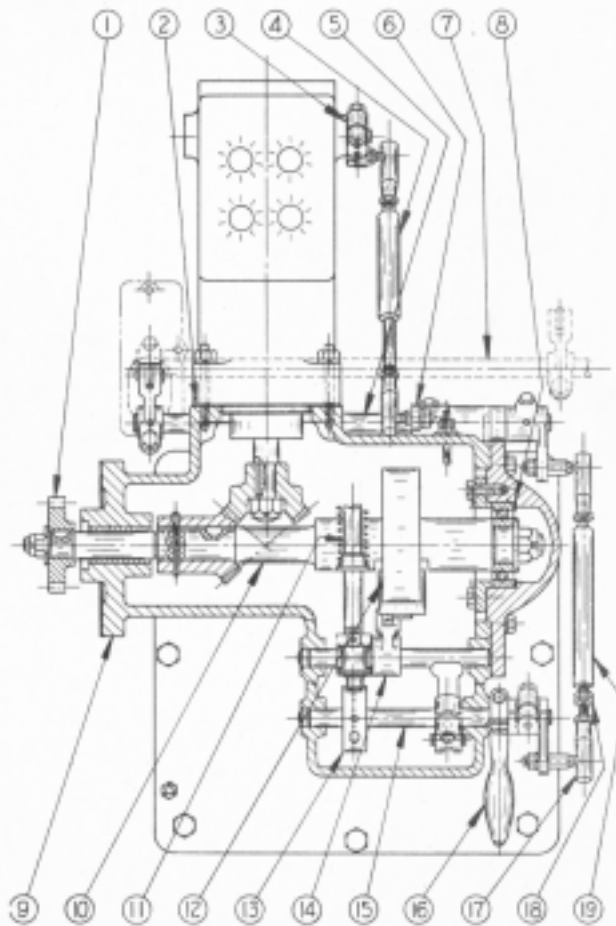

FIG. Q-3
The construction of the Woodward governor drive and overspeed governor is illustrated in Fig. Q-3. The drive is contained in housing (9), which is bolted to the centerframe and gear casing and on which the governor is mounted. Drive shaft (10) rotates in a bronze bushing in one end of the housing and in a ball bearing in the other end. The bushing is pressure lubricated and if replaced must be reamed to 1.0000" to 1.0005" in diameter after pressing in and the oil hole must be drilled through. The reamed hole must be kept concentric
The governor linkage is illustrated in Fig. Q-3. Governor terminal shaft lever (3) is connected by means of collapsible link (4) to lever (6) which is clamped to shaft (5). This shaft in turn is linked to fuel wedge shaft (7) located inside of the cylinder block.
The overspeed governor is built into the Woodward Governor drive. It is a safety device, stopping the engine in case of overspeeding by withdrawing the fuel wedges. Its operation is a definite indication that something is wrong, either with the regular governor or with the linkage, and the engine should not be run until the trouble has been located and corrected. UNDER NO CIRCUMSTANCES should operation of the engine be permitted with this device disconnected or made inoperative, as severe overspeeding of the engine may be very dangerous and may result in a complete wreck of the engine. The construction is illustrated in Fig. Q-3. Horseshoe shaped overspeed governor weight (12) is held to the governor drive shaft by a spring acting on a pin which goes through the drive shaft. The spring tension has been adjusted for a tripping speed approximately 7 to 10% above the normal operating speed by means of shims under the outer end of the spring. There should be no occasion for changing the shims, but the assembly can be dismantled if desired by pressing in on the spring end of the driving pin until the split washer on the weight end is free, allowing removal of this washer.